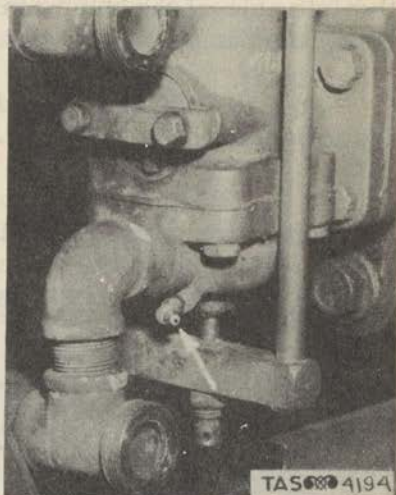

Figure 244. Grease Fitting on Pressure Regulator and Unloading Valve.
(5) Pressure regulator and unloading valve. The fitting shown in figure 244 should receive grease each day the apparatus is used.
(6) Other points. Apply gear oil to the universals (three fittings) when lubricating the chassis. The jack-shaft has grease-packed ball bearings and requires no attention. Shut-off valves should be disassembled after each day of use and grease applied to the inside parts to protect against corrosion. When